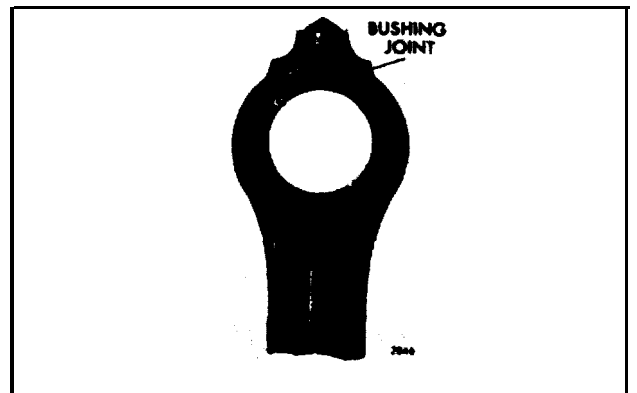

Fig. 7 - Location of Bushing Joint
2. Start a new bushing straight into the bore of the connecting rod, with the bushing Joint at the top of the rod (Fig. 7).